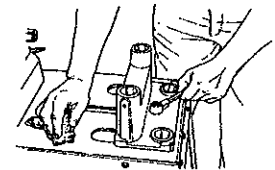

Fig.A-16
20. Using paste or furniture wax (NOT car wax) and a soft cloth, wax the entire carriage slide path. You will need to loosen the carriage lock and slide the carriage forward in order to wax all of the path. Buff off the excess wax. See Figs. A-16 and A-17.